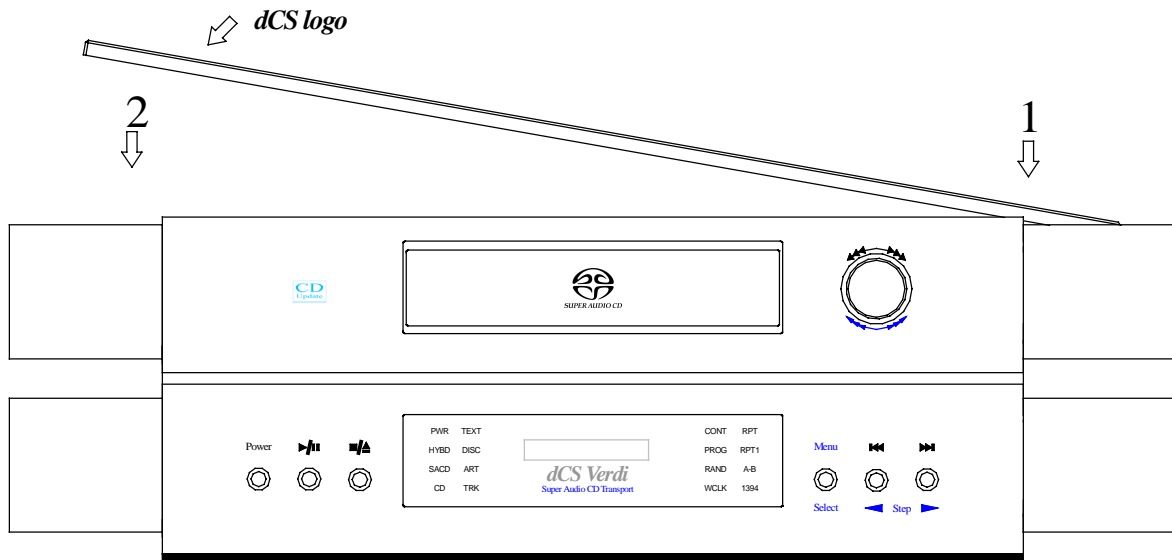

Figure 8 – Locating the Top Glass Plate
**do this:** Find the *dCS* logo on the top face of the glass. Fit the glass with the logo in the front left corner of the unit as shown in **Figure 8**.
**do this:** Carefully locate the right hand edge of the glass in the well in the top of the unit (step 1 in **Figure 8**).
**do this:** Lower the glass down on the left hand side until it can be safely dropped into place (step 2 in **Figure 8**). Centralise the glass plate.